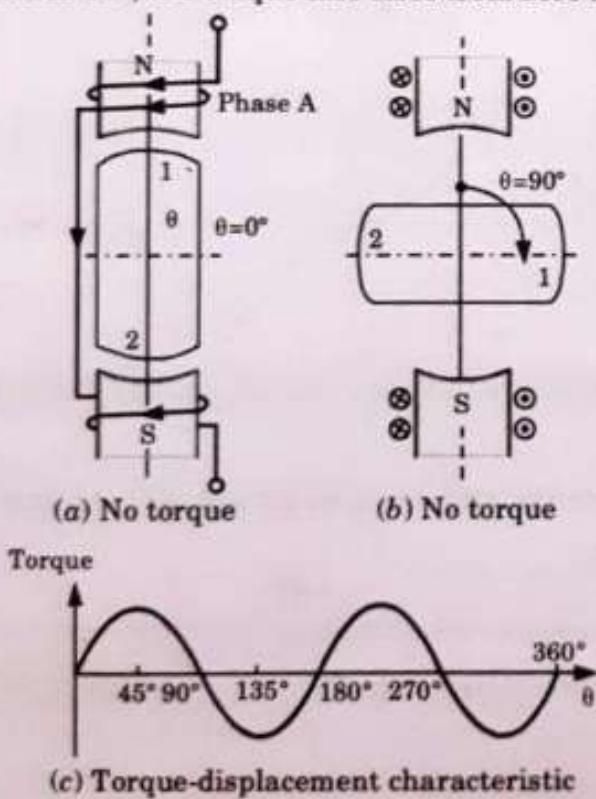

Fig. 2.12.2. Pertaining to a VR stepping motor.
- For a VR stepping motor in Fig. 2.12.2(a), only phase winding A is taken to be permanently excited.
- For $0^\circ < \theta < 90^\circ$, the torque is in CCW direction. When $\theta = 90^\circ$ as shown in Fig. 2.12.2(b), the reluctance torque is zero. At $\theta = 90^\circ$, the rotor can rotate either CW or CCW, therefore, the rotor orientation at $\theta = 90^\circ$ is unstable.
8. The variation of reluctance torque as a function of rotor position is shown in Fig. 2.12.2(c).